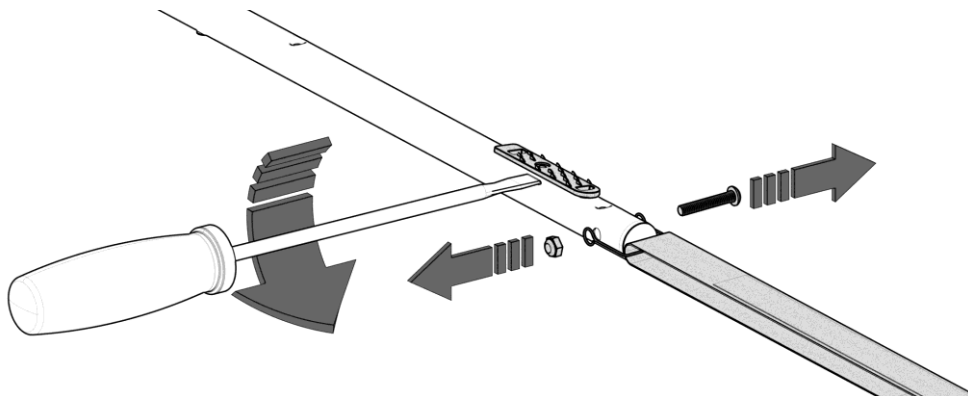

FIGURE 3
3. Remove safety straps from Legs **A** and **B** using tools provided (**J** and **R**). Remove red grippers from both legs using a Flat Head Screwdriver as shown in *FIGURE 3*.